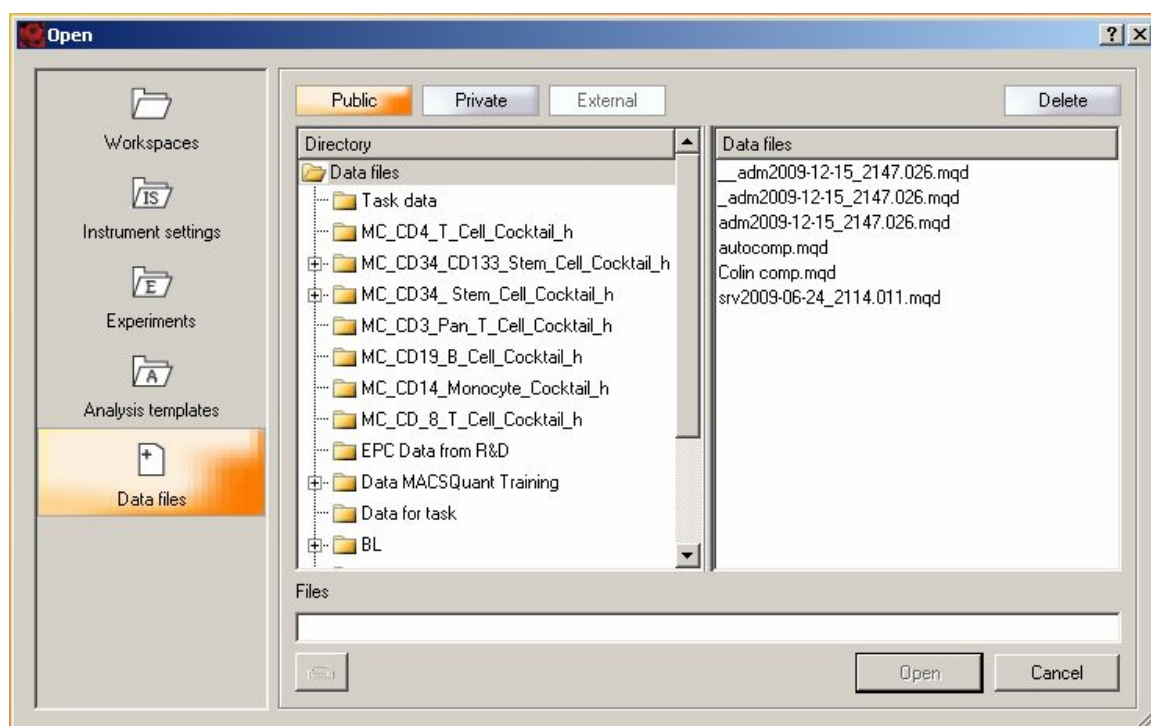

Figure 7.2 Open dialog. Navigate to data files or other file types to open in the MACSQuantify Software.
- 3) Select **Data files** on the left hand side of the dialog box (see Figure 7.2).